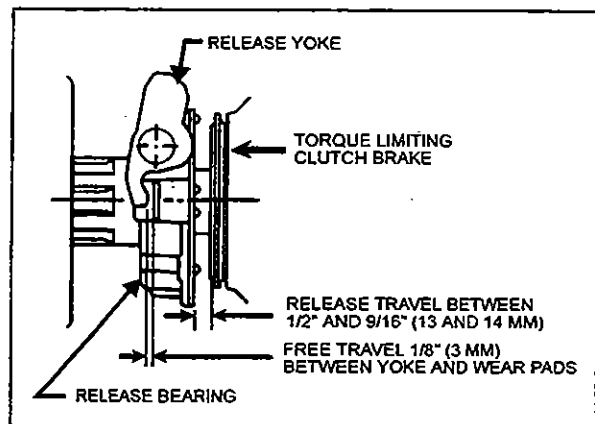

Figure 2: Release Travel And Free Play Travel Adjustment MA3E0223
2. Measure the **release travel** (clearance between release bearing housing and clutch brake). Refer to figure 2. The clearance should be between 1/2" and 9/16" (13 and 14 mm).
1. Check **free travel** as shown in figure 2. The clearance should be 1/8" (3 mm).